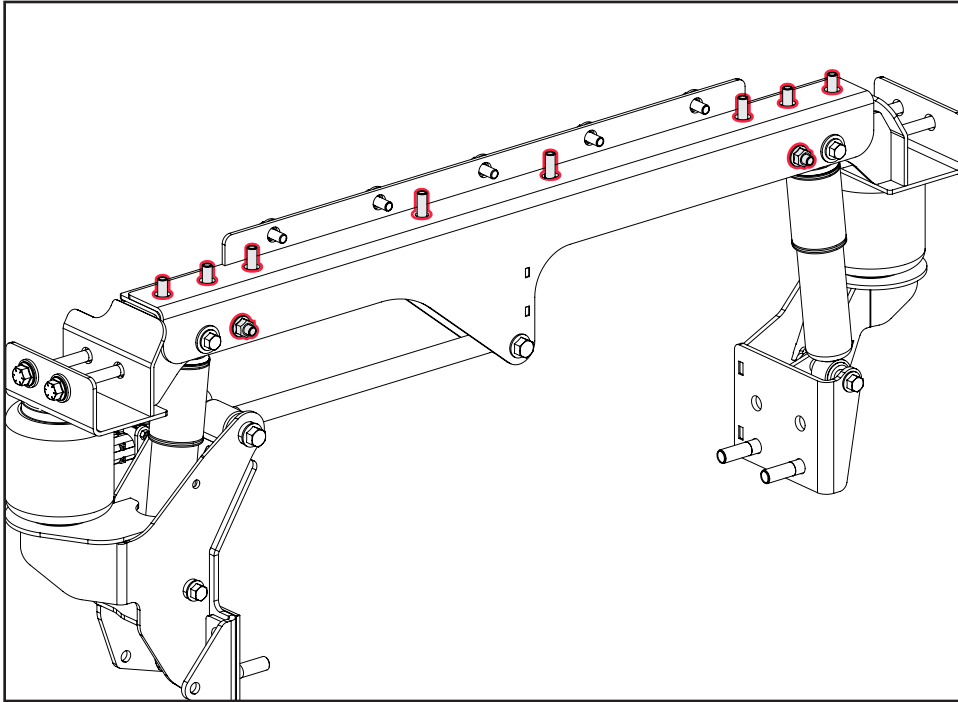

Figure 2
3. Locate eight vertical and two horizontal fasteners and tighten to 37 Lbs.-Ft of torque (see Figure 2).